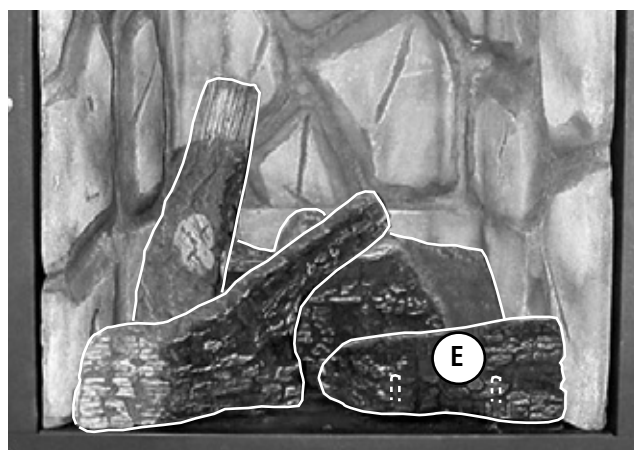

Figure 10 - Install Right Front Log (E)
4. **Place the right front log (E) as shown in Figure 10.** Position the hole on the bottom of log E over pins #4 and # 5.